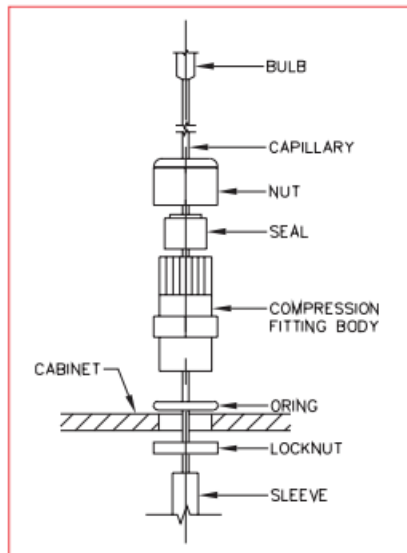

Figure 9
3. Remove compression nut from the fitting (see Figure 9). Remove seal from fitting. Remove fitting from capillary.
8. Place compression fitting body over capillary. Install seal on capillary and insert seal into body of fitting (see Figure 9).